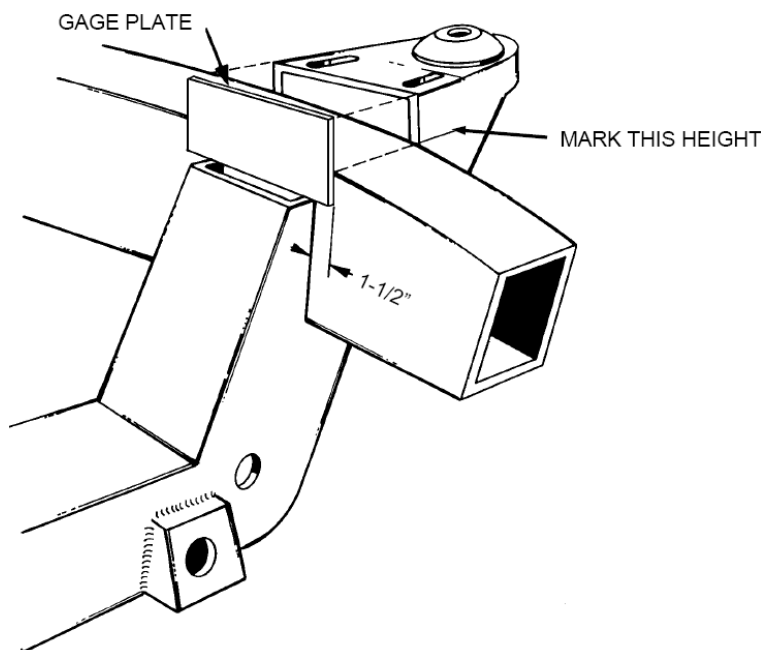
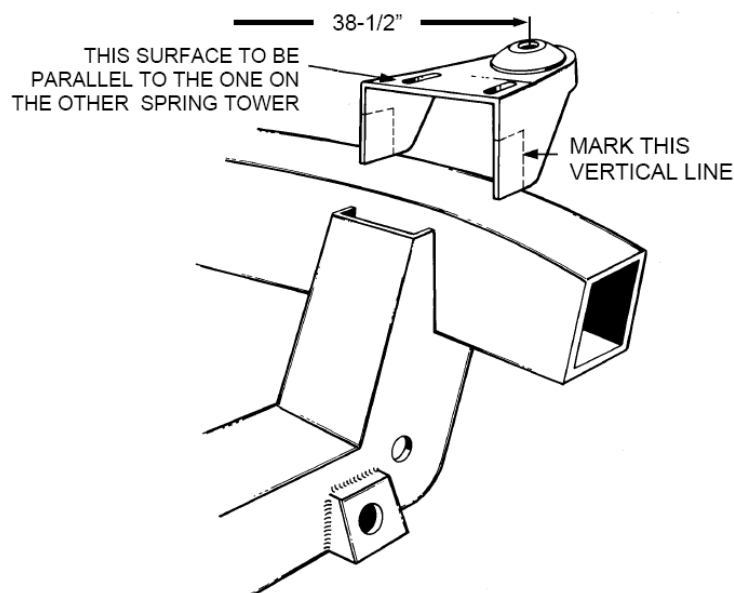

Figure 4- Spring Tower Install
Figure 5- Spring Tower Location
7. The upper control arm mounts, or the spring towers are next. They are a little more complicated than the crossmember, so work carefully, and think out what you are doing completely. They are positioned 38-1/2" apart measured from the center of the shock cup holes. They are placed 1-1/2" forward of the front of the crossmember. The 1/8" off-set provides you with built-in caster. To position them at the proper height, use the tapered boxing plates as gages. Stand the plates on edge on top of the tops of the crossmember, up against your frame boxing plates, with the thick end towards the front (See **Figure 4**). This 3 degree taper is your anti-dive. Hold the spring towers against the outside of the frame so they line up with the gage plates and transfer the location of the frame top surface onto the spring towers. Again remember that the front and back will not be the same, so remember to transfer both front and back lines. Then hold the spring towers on top of the frame and at the 38-1/2" spread dimension. Take care to insure that they are not rotated, that the slots for the upper control arms are in line with each other from spring tower to spring tower. Mark the spring towers vertically from the outsides of the frame rails (See **Figure 5**). Also make sure that the surface with the two slots, where the upper control arms mount is flat to each other from tower to tower across the frame, and the spring mount cups are tilted slightly up. You could clamp a piece of bar or tubing onto the slotted surface from one spring tower to the other to keep them flat for this measurement.